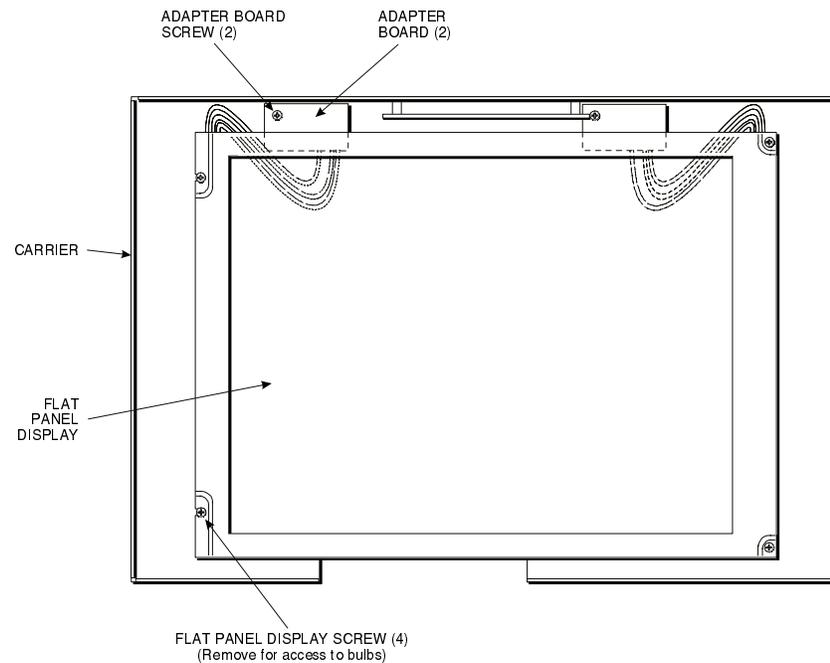

Figure D-3. Model #KCT10276BSTT - Front View
5. Referring to Figure D-3, use a small Phillips-head screwdriver to remove the four flat panel display screws.